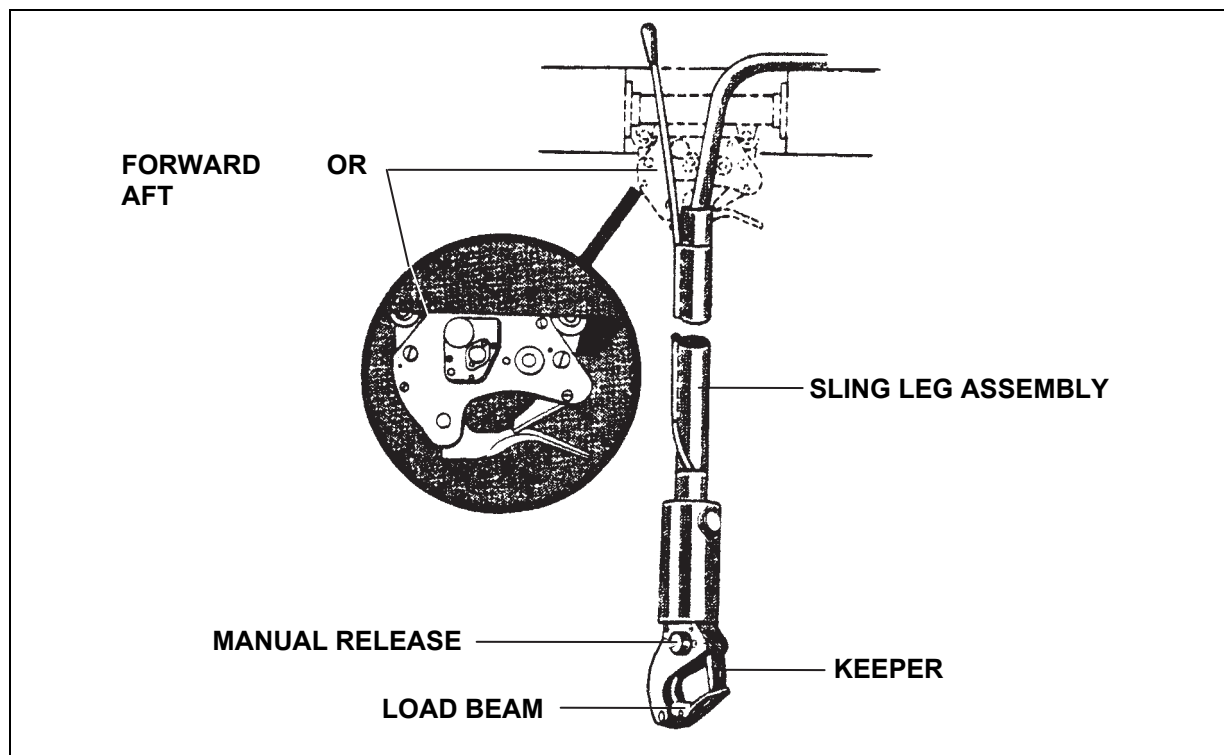

Figure 2-20. H-53E Forward and Aft Cargo Hooks
- A dual-point suspension system, similar to the CH-47D, uses a forward and aft cargo hook (figure 2-20). These two cargo hooks, located 10 feet apart, must be used for dual-point loads. The aircraft maximum lift capacity, when carrying a dual-point load, is 32,000 pounds with a maximum of 60 percent of the sling load on either the forward or aft hook. A pendant specifically designed for the H-53E is used with the dual-point system to provide additional clearance between the helicopter and the hookup team. The aircrew can open the forward or aft cargo hook electrically or manually. A manual release lever is located on the left side of the cargo hook. In an emergency, the ground crew can open the hook by moving the manual release lever up.